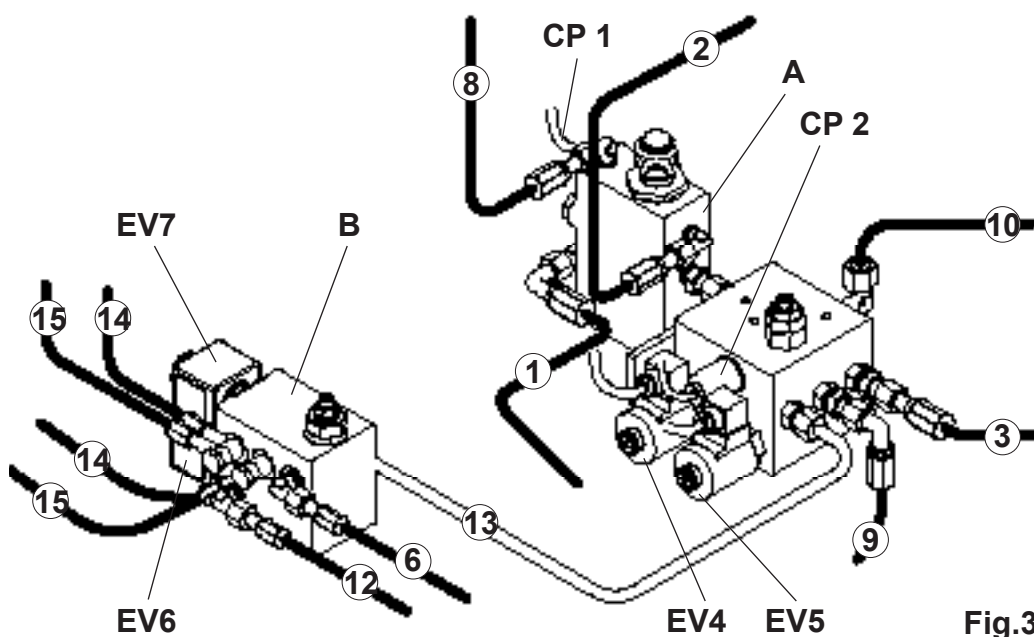

Fig.3
- Connect the pipes from platform P1 (1-2-3) to the valve block (A) using the appropriate fittings.
- Connect the drain pipes (4 and 5) to the control unit by means of pipe (7).
- Connect pipes (6) and (12) to the control unit.
- Fill the tank (11) with ESSO NUTO H32 oil or equivalent.
- Connect the electrical cables from the control unit to the EV4-EV5-EV6-EV7 solenoid valves and pressure switches CP1-CP2 (fig.3)